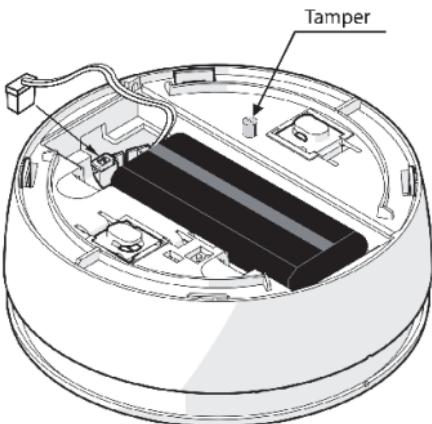

Figure 4
4. Open the battery compartment cover and connect the battery cable to the battery connector. When inserting the battery holder into place, make sure the batteries are facing the Sounder's housing (see Figure 4).